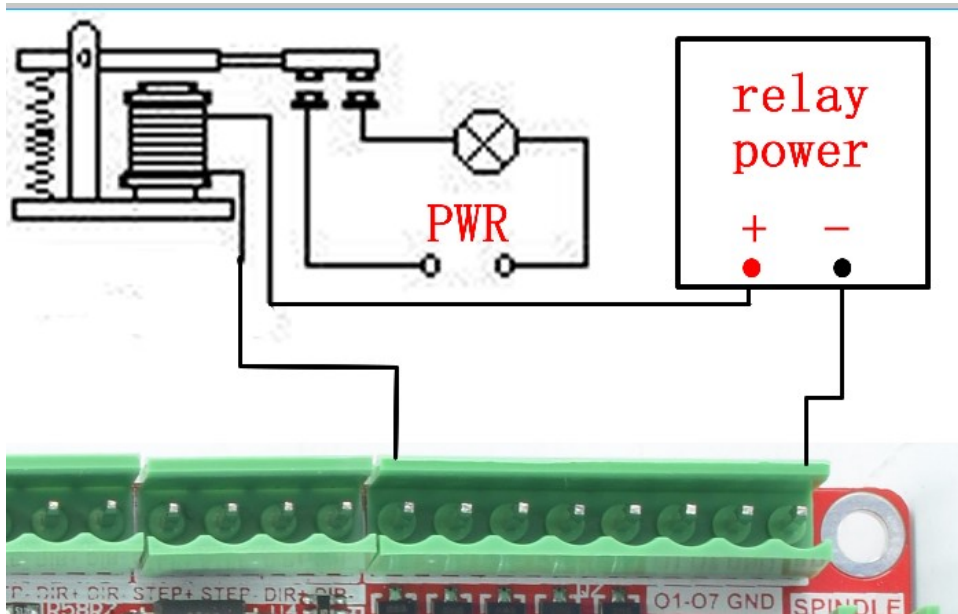

Figure2-6. Open drain port Wiring methods of O1-O5
- H) Low 8 General IO output interface, Have a current drive capability within 10MA, defined as O1、O2、O3、O4、O5、O6、O7、GND from left to right.O1-O5 are Open drain port. The Maximum drive current up to 100MA, Wiring methods see as Figure2-6.